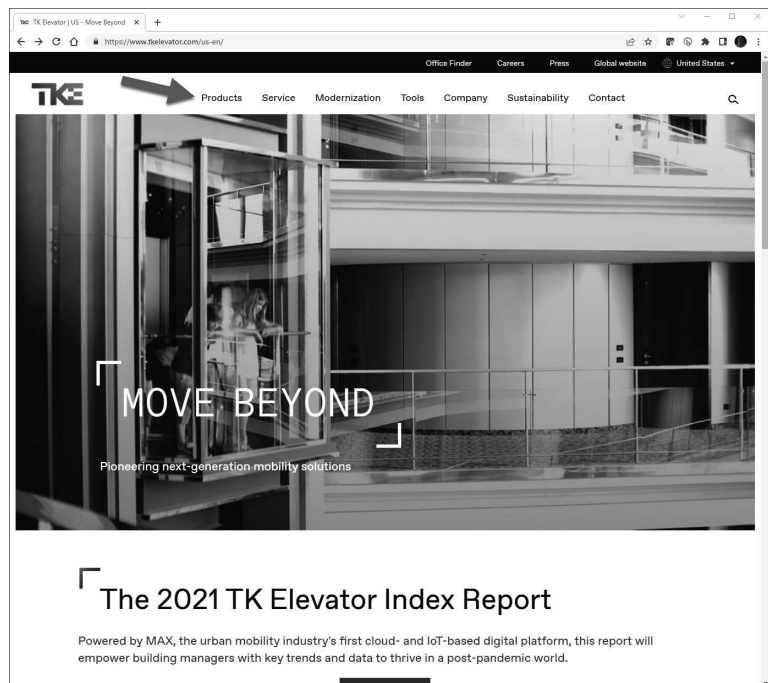

FIGURE 4-3.1 Elevator manufacturer's website
2. Browse to the **ThyssenKrupp Elevator** website by entering the URL <https://www.tkelevator.com/us-en/> and then press **Enter** (Figure 4-3.1).